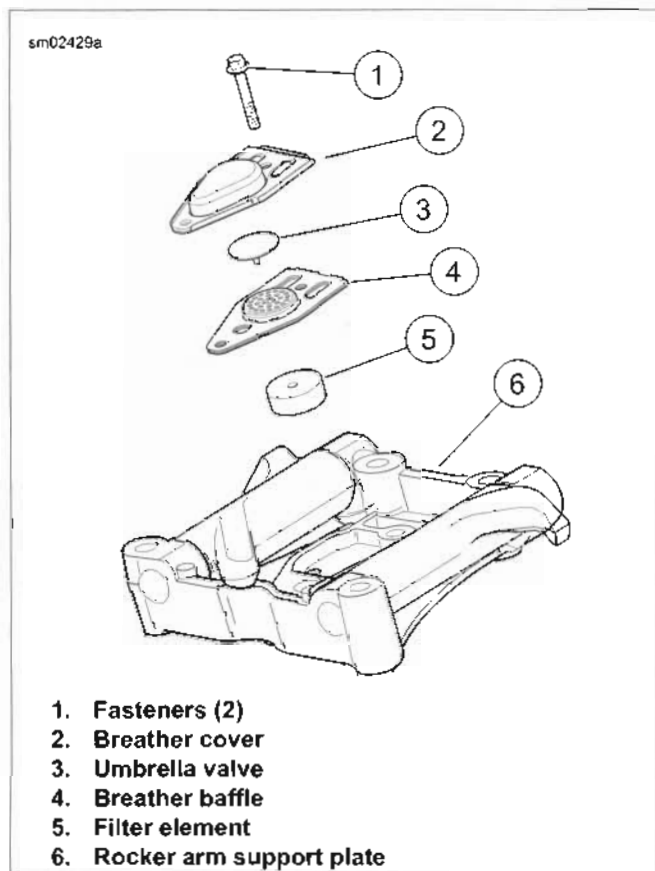

Figure 3-29. Breather Assembly
See Figure 3-29. Breather baffle assembly is manufactured with gaskets attached. Replacement part is supplied with the filter element (5) and umbrella valve (3). Any time the breather is disassembled, the baffle assembly must be replaced with a **new** assembly.
2. Remove two fasteners (1) and remove breather cover (2).
3. Remove breather baffle (4). Discard breather baffle, filter element (5) and umbrella valve (3).
See Figure 3-29. Install breather assembly and rocker cover using **new** baffle assembly. See 3.23 TOP END OVERHAUL: ASSEMBLY, Breather and Rocker Cover.